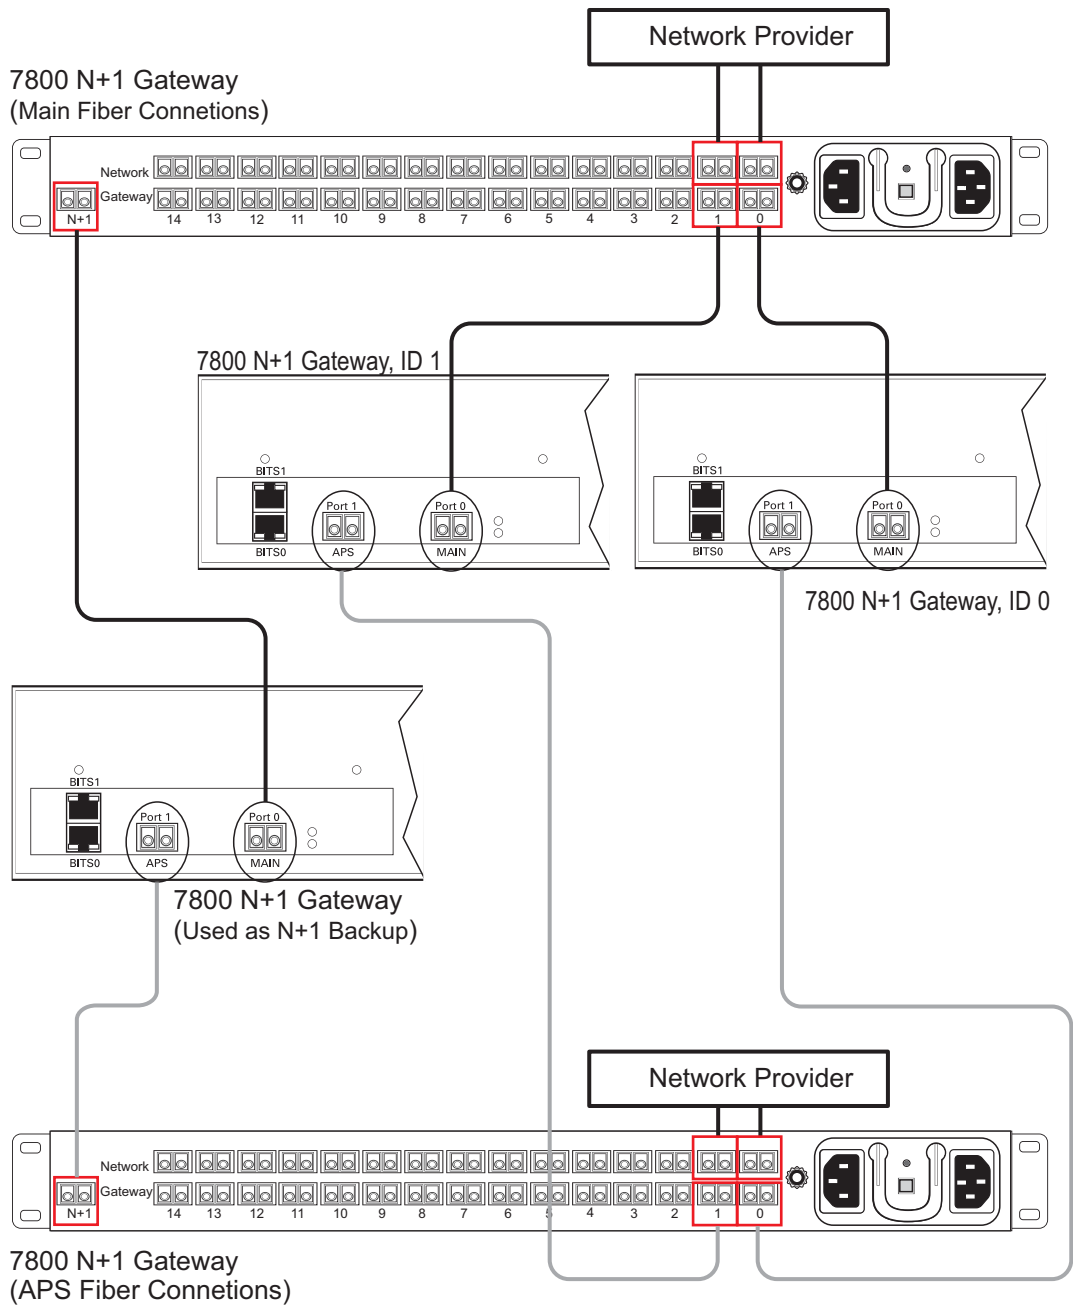

Figure 6.1 Optical Interface Connections to the 7800 N+1 Patch Panel
2. Relate the fiber optic cables from the network provider with each TMG7800-STM1 and use the same port number that is assigned to each TMG7800-STM1. See figure 6.1 on page 45